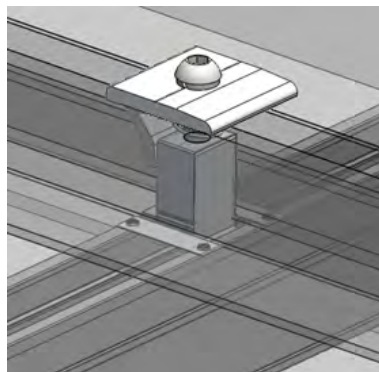

Figure 15
- Step 5: Loosely place the next framed PV Module into the other side of the Universal Clamp. Ensure the Grounding Clip is properly positioned, and the frame of the PV Module is in proper contact with Universal Clamp as shown in Figures 15 and 16;